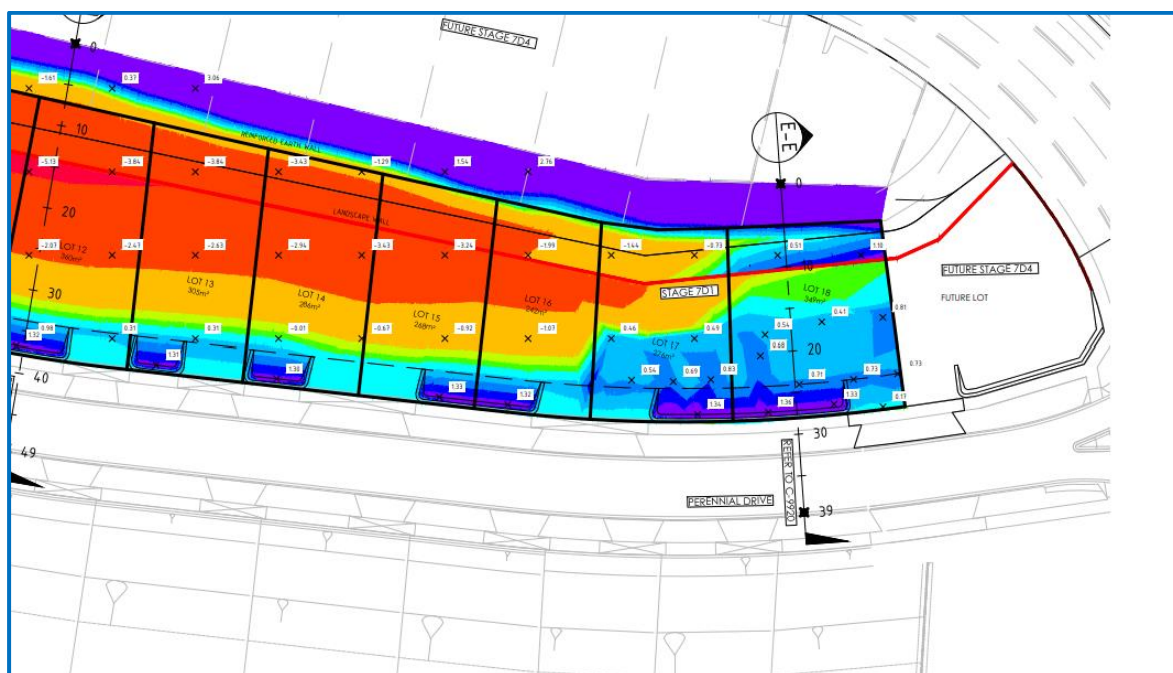

Figure 2.3.: Extract from CJ Arms drawing titled 'Volume Comparison GS and BS Levels', Project No.15006, Drawing No.9902, Rev 1.
- Site Plan drawing (1 page) prepared by CJ Arms titled 'Volume Comparison ES and FS Levels', Project No.15006, Drawing No.9902, Rev 1, dated 13.02.2024, attached in Appendix D. Extract of this drawing is shown in Figure 2.3.
This report does not include fill outside the general boundary of the filled areas discussed in Section 2.5, and shown on Figures 2.3, 2.4 and 2.5 of this report.